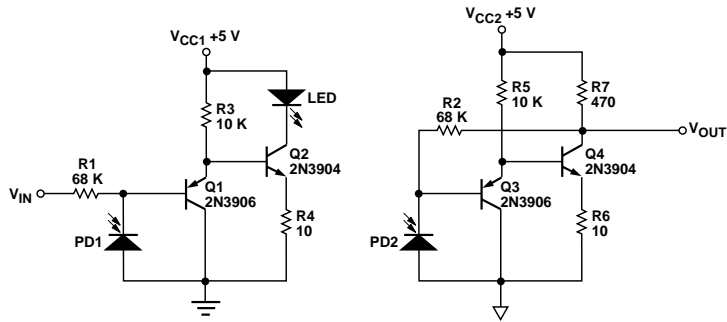

Figure 16. High-speed low-cost analog isolator.
- IMRR is defined as the ratio of the signal gain (with signal applied to V_{IN} of Figure 16) to the isolation mode gain (with V_{IN} connected to input common and the signal applied between the input and output commons) at 60 Hz, expressed in dB.
The circuit shown in Figure 16 is a high-speed low-cost circuit designed for use in the feedback path of switch-mode power supplies. This application requires good bandwidth, low cost and stable gain, but does not require very high accuracy. This circuit is a good example of how a designer can trade off accuracy to achieve improvements in bandwidth and cost. The circuit has a bandwidth of about 1.5 MHz with stable gain characteristics and requires few external components.
Although it may not appear so at first glance, the circuit in Figure 16 is essentially the same as the circuit in Figure 12a. Amplifier A1 is comprised of Q1, Q2, R3 and R4, while amplifier A2 is comprised of Q3, Q4, R5, R6 and R7. The circuit operates in the same manner as well; the only difference is the performance of